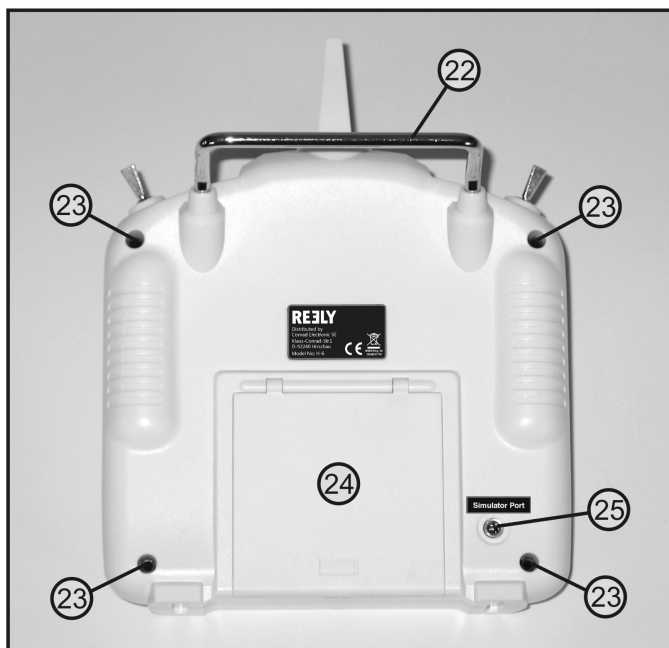

Figure 2: View of the rear
Lift the battery compartment lid (see figure 2, item 24) at the lower edge and fold it up.